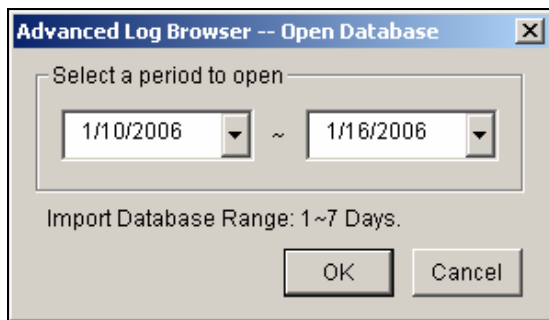

Figure 4-41
Quick Search is a very useful tool for searching and playing back POS events. In Advanced Log Browser (Figure 4-41), double-click any POS event in the POS table. The Quick Search window will appear. The following figure and table give you an overview on Quick Search's features and functional buttons.
Click the **Event Query** button (No. 6, Figure 4-41) on the Quick Search window, and the following dialog box will appear. Use this function to find POS events by a specific item, transaction, or date.
1. Click the **Expand/Shrink Dialog** button (No.11, Figure 4-41), and select **Advanced Search**. The Advanced Search panel appears.